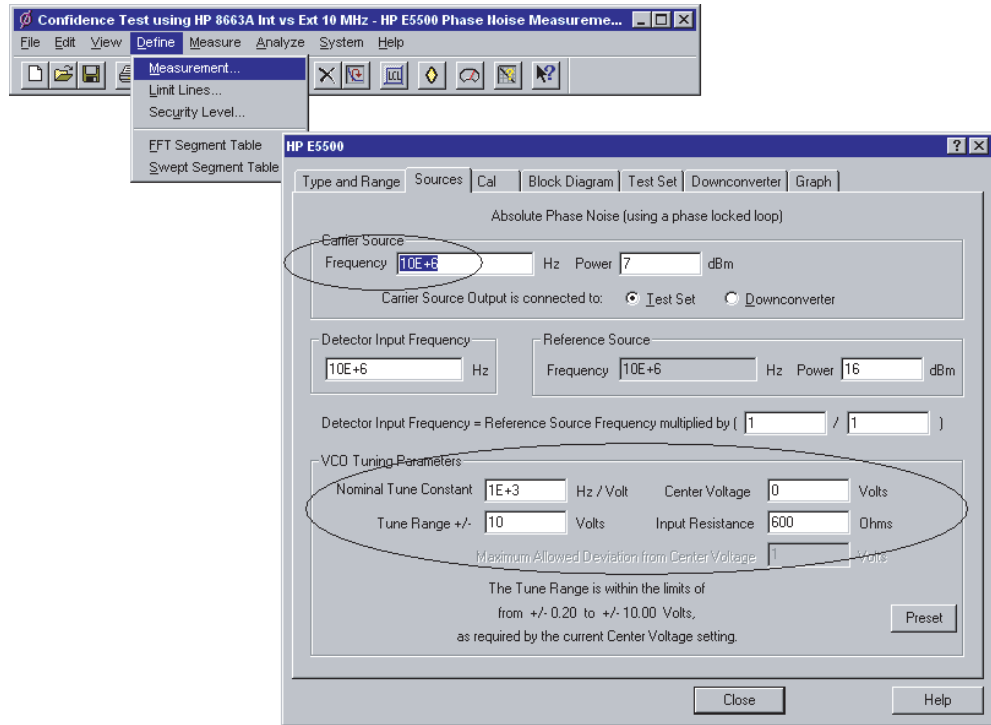

Figure 86 Enter source information
- 5** Using Figure 86 on page 131 as a guide, navigate to the **Sources** tab.